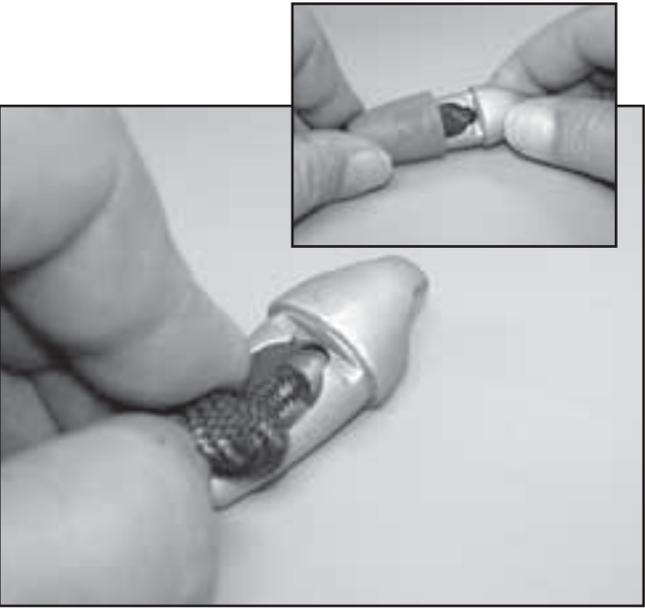

FIGURE 6.37
- 12. Secure the knot inside the Traction Cord Knuckle ensuring the loose end enters the Bore inside the Traction Cord Knuckle. See Figure 6.37. Slide Traction Cord Knuckle Cover into position over the knot. See Figure 6.37 inset.